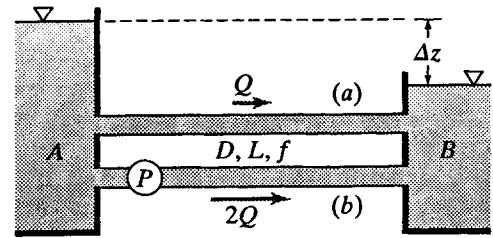

Figure P15.47
15.47 Water at 60°F flows by gravity between two reservoirs. The water surface in Reservoir A is at elevation 5010 ft and that in Reservoir B is at elevation 4980 ft. The water flows through a 24-in-diameter pipe ($f = 0.026$) of length 8000 ft (Fig. P15.47). (a) What is the flow rate? Neglect minor losses. (b) If one wishes to double the flow rate using a pump operating at 1800 rpm, what specific speed pump would you recommend? (c) Approximately what would be the diameter of the impeller of the pump? (d) If the pump were set at the upper end of the pipeline, at what elevation must the pump be set to safeguard against cavitation if the head loss from Reservoir A to the pump is 1.5 ft?